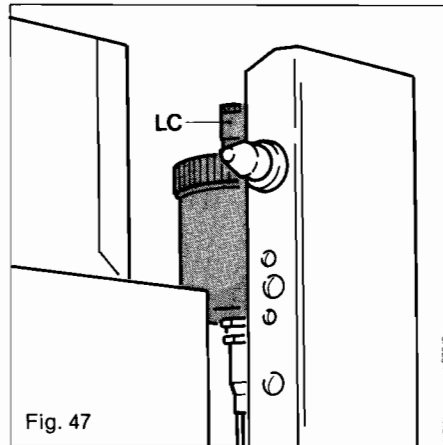

Fig. 47
14.5 Change of automatic air vent (Fig. 47)